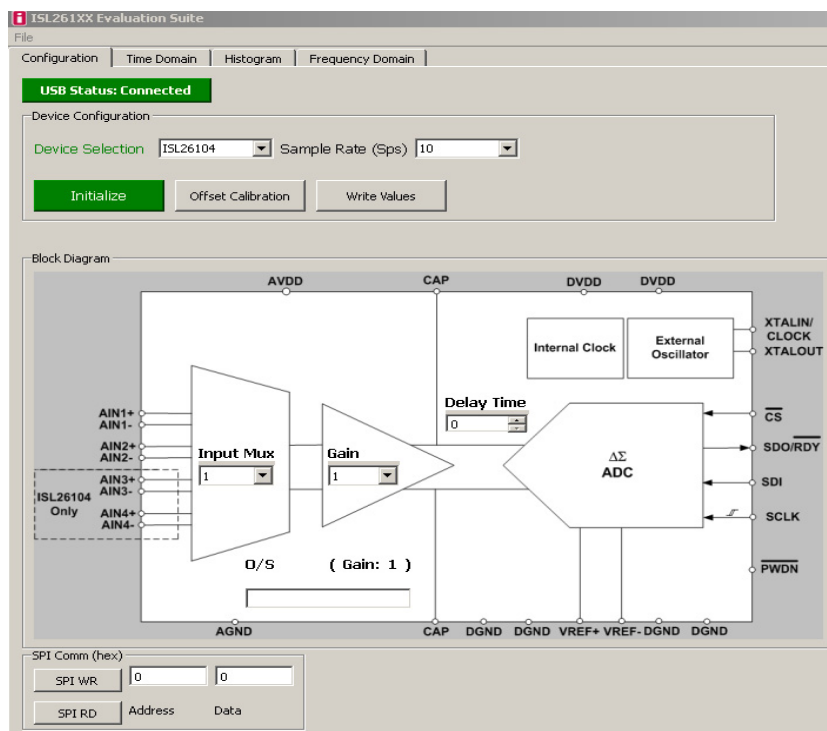
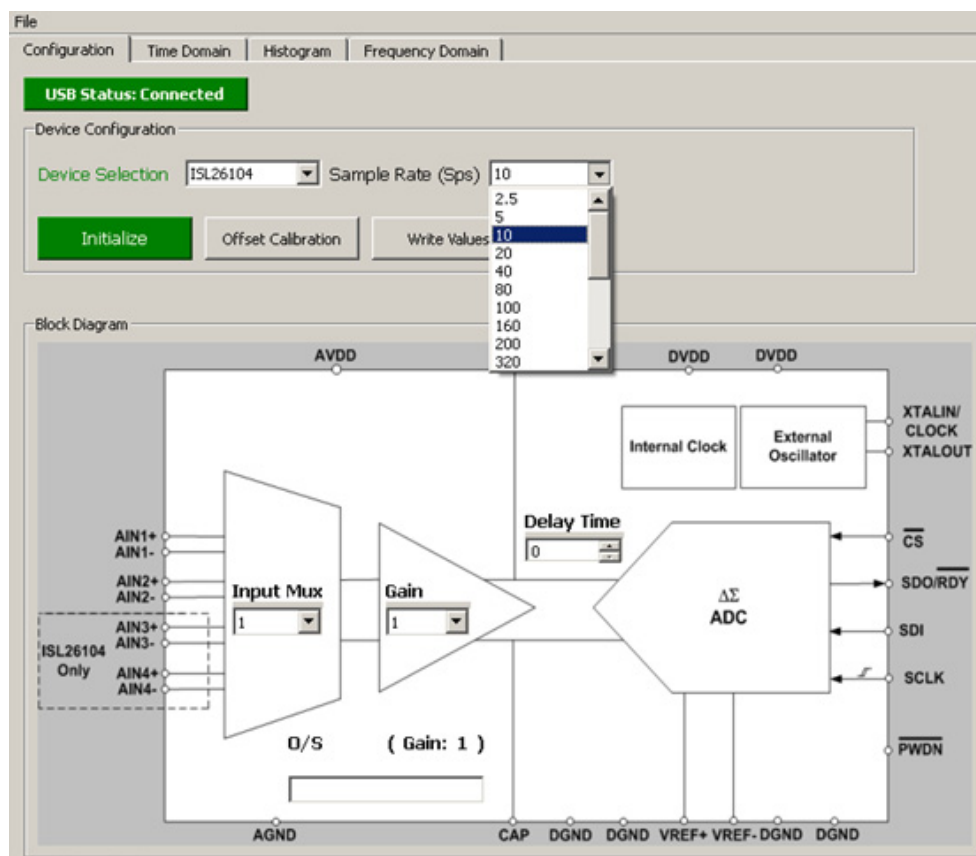
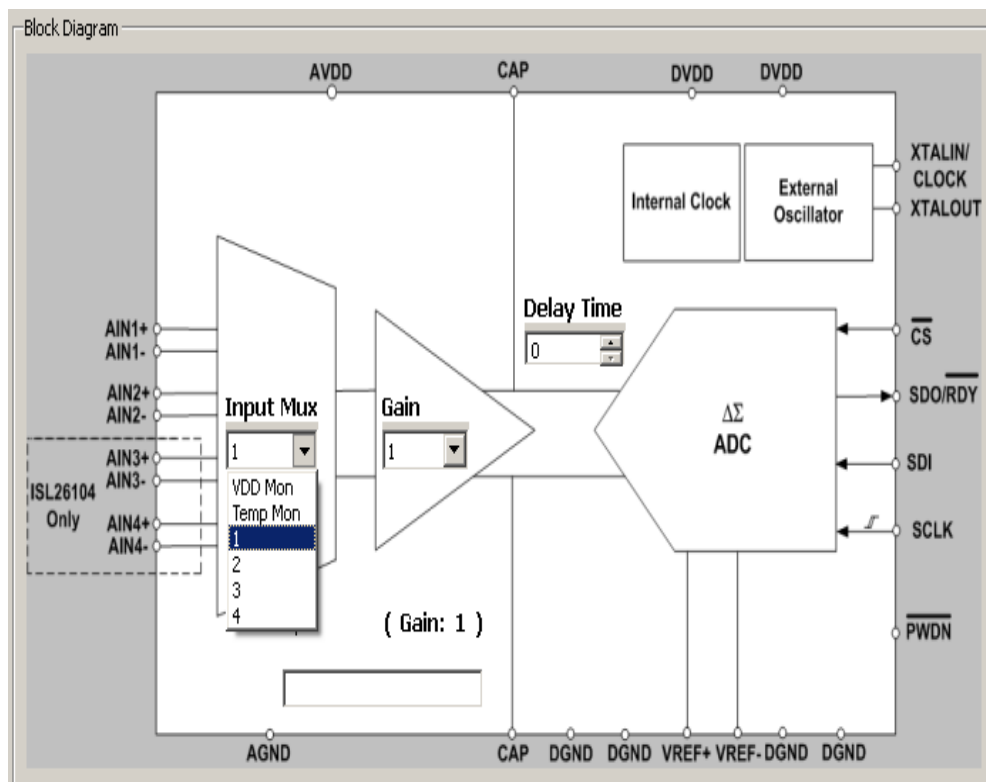
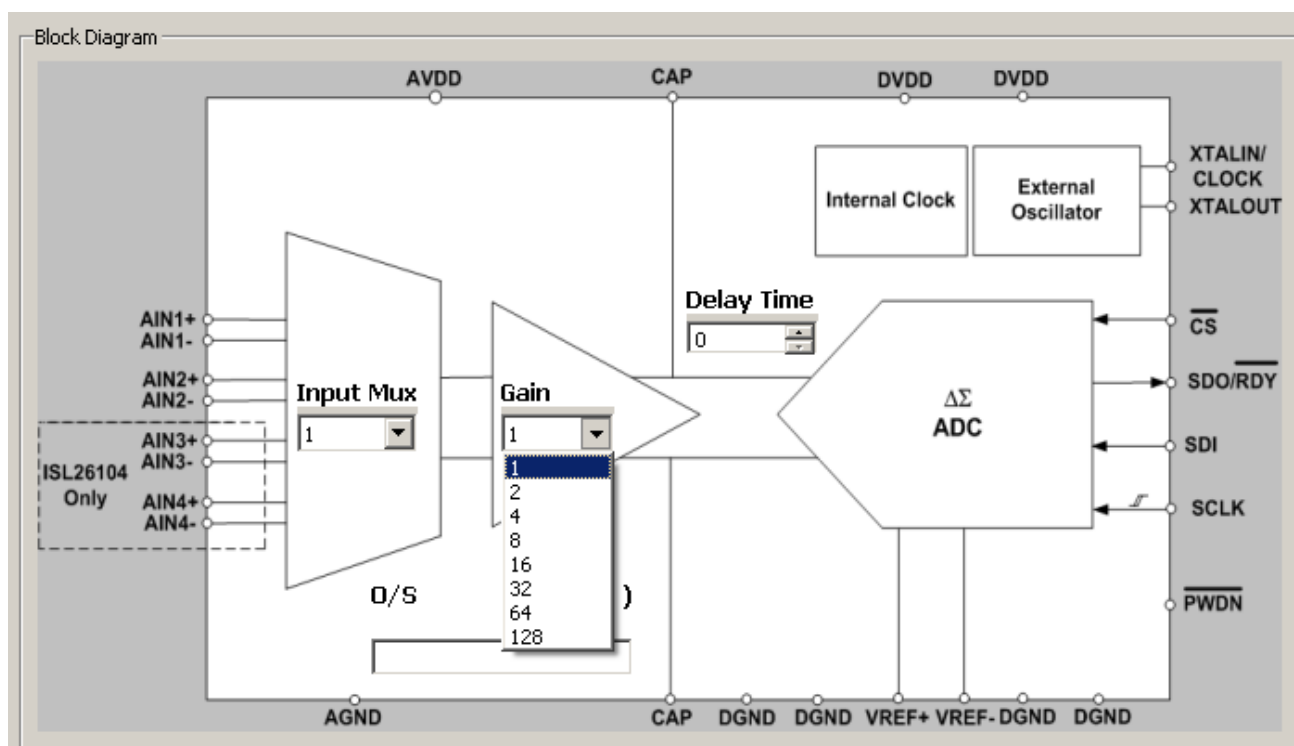

FIGURE 13.
FIGURE 14.
FIGURE 15.
FIGURE 16.
Once the **Initialize** button is clicked with the ISL26104 selection, the screen will change and illustrate a block diagram of the ISL26104 ADC with windows inside the block diagram to select various options, such as the **Input Mux** channel and the **Gain** options available in the ADC as shown in Figure 13.
The ISL26104 device uses on-chip registers as the means for it to be configured. The user of the GUI software can use the **Configuration** window to set up the various options in the ISL26104 device. Some of these options are (1) Input channel (**Input Mux**) selection, (2) **Sample Rate** selection, and (3) **Gain** selection. The ISL26104 allows the user to configure the various settings for the ISL26104 via the **Configuration** window of the GUI as shown in Figure 13. The **Sample Rate** can be set by using the Sample Rate pull down menu as shown in Figure 14. Sample rates from 2.5 to 4000 samples per second can be selected. The **Input Mux** can be changed via a pull down menu as shown in Figure 15. The **Gain** can be changed via a pull down menu as shown in Figure 16. Any time a menu option is changed the **Write Values** button should be clicked. This instructs the GUI software to send a command to the chip to change the appropriate on-chip register. Note that multiple items (Sample Rate, **Input Mux**, **Gain**, etc.) can be changed and the **Write Values** button need only be clicked once for all the selections to be sent to the evaluation board.